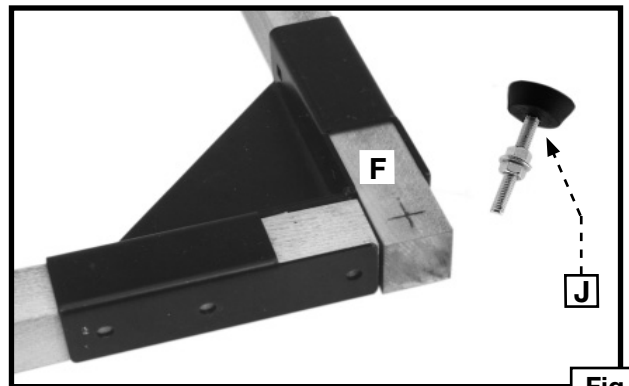

Fig. 9
- On the same end of the base where the pivot bracket will be located, measure $3/4"$ from the end and the side of the two side boards (F) Fig. 9 (the end without wheels). Mark the location where you will drill the two $7/16"$ holes that will accept the two leveling legs, one of which is shown at (J).